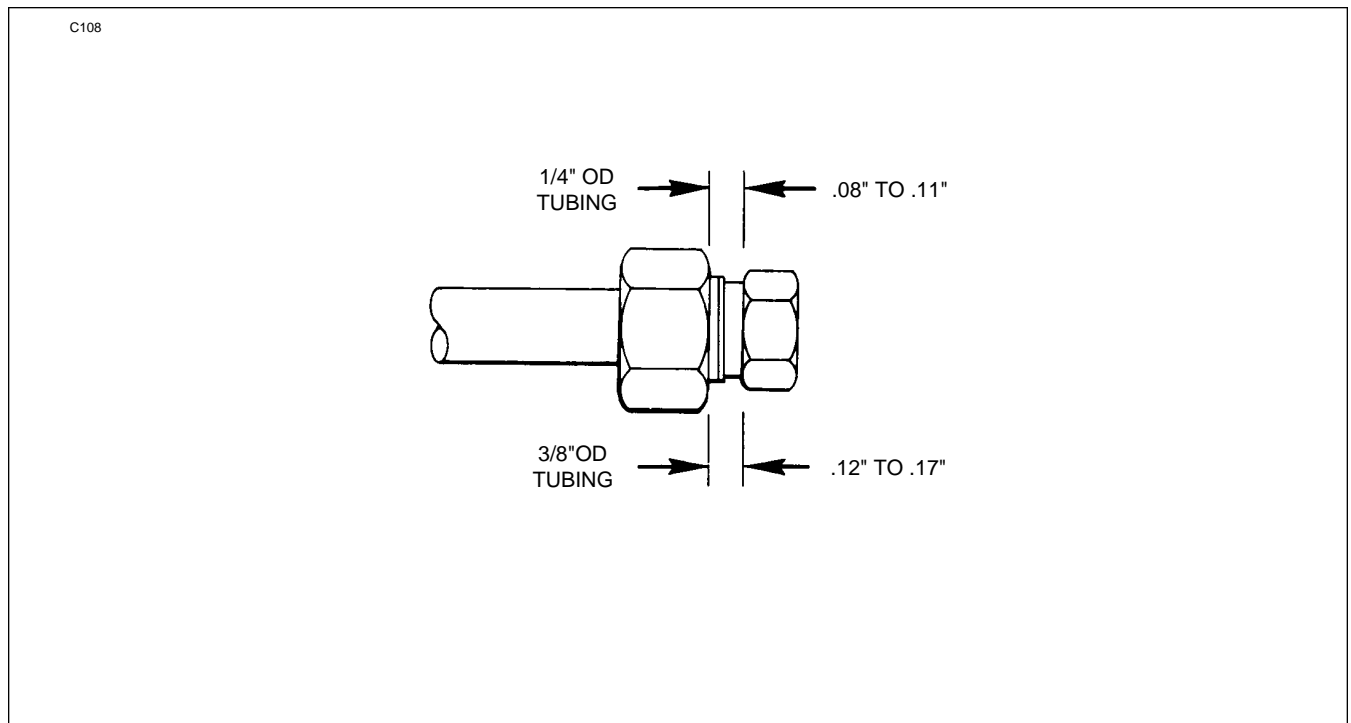

Figure 9-2. Tolerances. Union Nut and Tubing
- e. After torquing each fitting, measure between the face of the union nut and face of tubing nut. Refer to Figure 9-2 for tolerance.
- a. If fittings show evidence of galling, or does not meet the dimensional requirements of Figure 9-2. or continues to leak after being tightened it must be repaired.